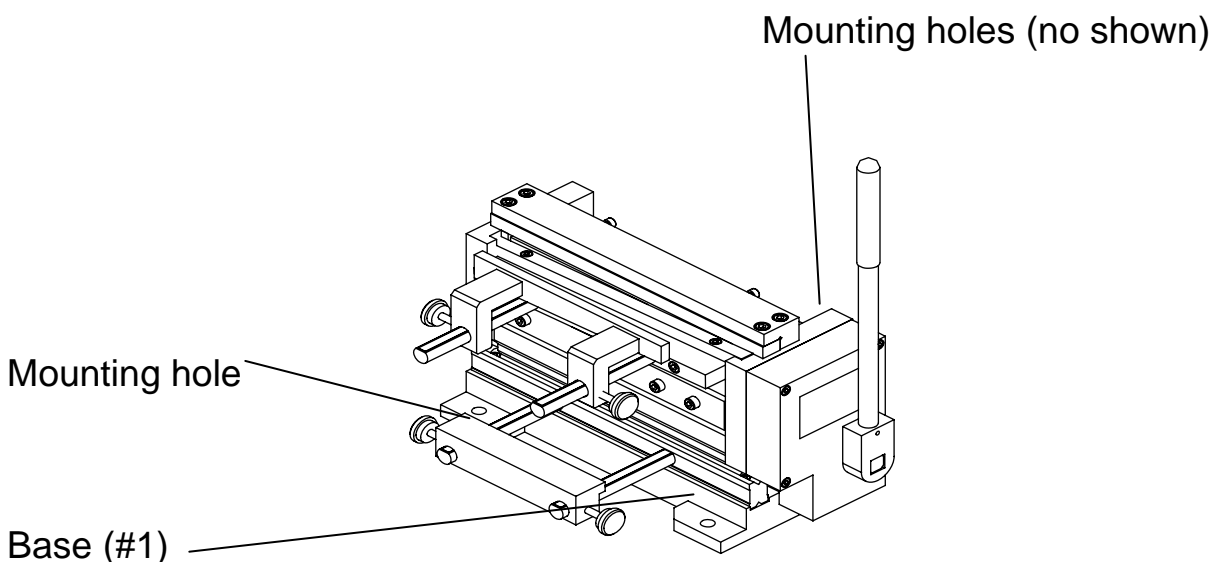

Figure 1 – Mounting Shear/brake to a Wood workbench
Step 5: Insert the BOLT & NUT SET (Supply these by yourself) into the Mounting Holes and through the workbench as shown in Figure 1.
Step 6: Mount the Shear/Brake to the workbench. Refer to Figure 1.